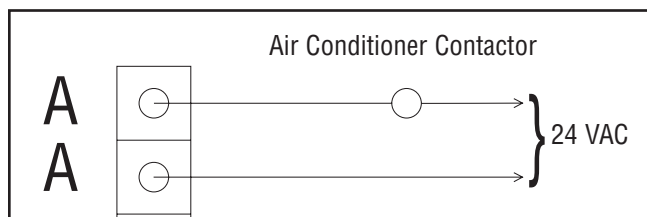

Figure 5 — Terminals “A-A”
2. Terminals “A-A” on control module are rated for 24 VAC and air conditioner contactor control. Contacts are connected in series with the air conditioner contactor control circuit (Figure 5).